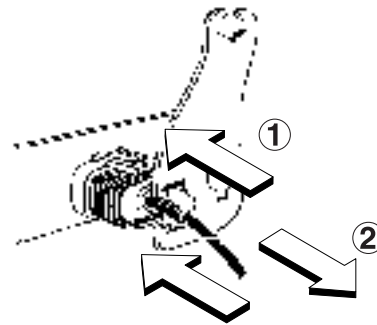

Fig. 14. Removing power and unit connectors
To remove the drive connector, proceed according to Fig. 14.
1. Insert special key No. 140375 and turn it approx. 30° to the left and unlock the plug (cf. Fig. 14).